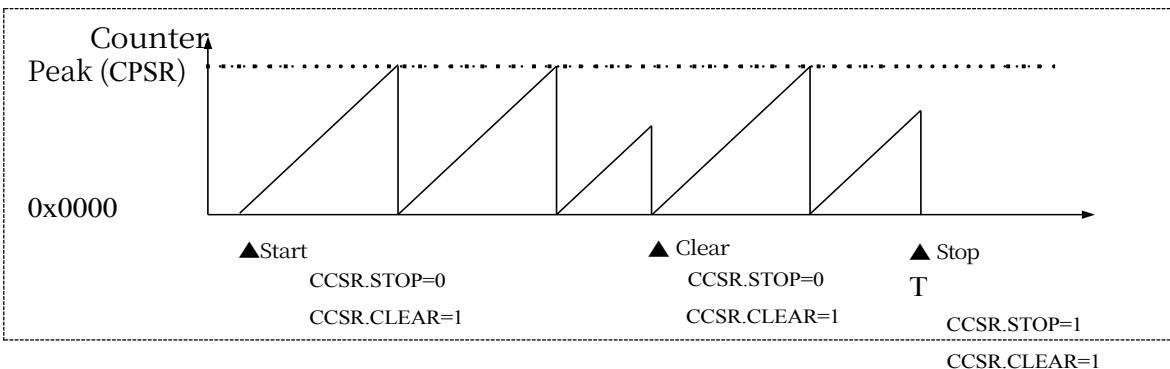

Figure 19-4 Timer4 Sawtooth Wave Mode Counting Action
- 1) The sawtooth wave counting operation and control flow is shown in Figure 19-4.